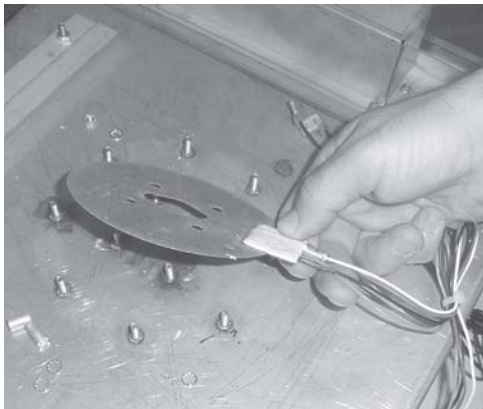

Figure 3-48
7. Pull water heater from unit. Figure 3-48.